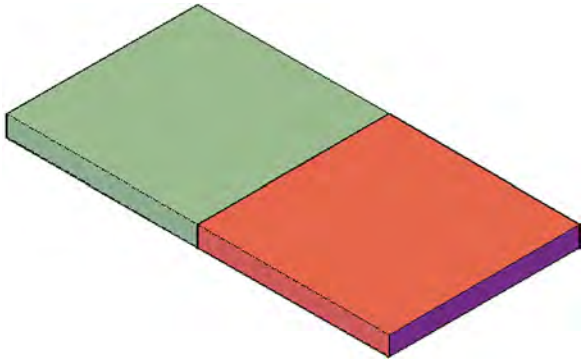

FIGURE 22.8
- Step 5.** This is similar to the 2D version of the mirror command. Press Enter for the default. The mirrored image appears as shown in Figure 22.8.